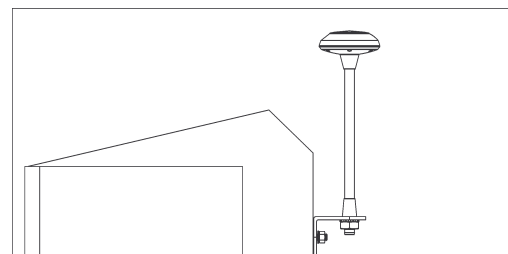

Figure 6a- Mounting Location
5. Select the highest location on the truck mirror to mount the satellite radio antenna without obstruction. See Figure 6a.